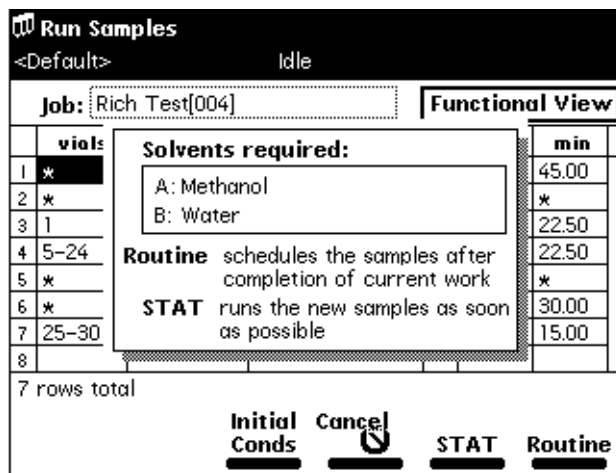

Figure 5-5 Run Samples Screen with Solvents Required Dialog Box
4. Press the **Start** screen key. The Run Samples screen appears with a list of the solvents required for the run (Figure 5-5). Check that you have prepared the Separations Module with the indicated solvent(s).
5. Press the **Start** screen key. A screen appears with a list of the solvents required for the run, as shown in Figure 5-5. Check that you have prepared the Separations Module with the indicated solvent(s).